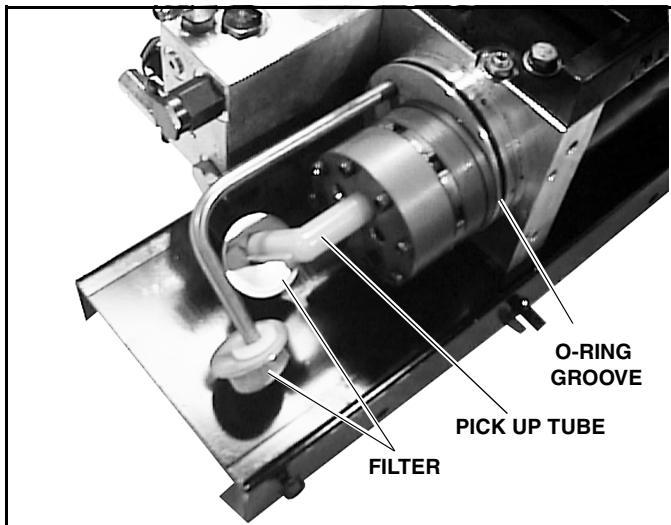

Figure 2-2
8. Visually check that the pickup tube and filter face down. (See Figure 2-2) If not, rotate the pickup tube until the tube and filter face down.